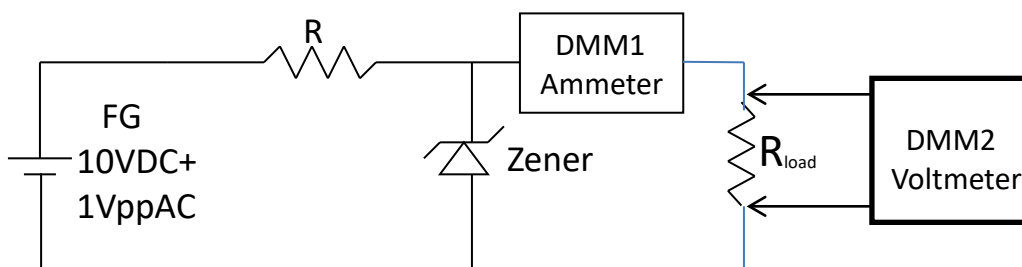

Figure 3. Voltage regulator using Zener diode
1. Construct the circuit as shown in Figure 3. Use R calculated in pre-lab. For 10V power supply use offset voltage of 10V and minimum ac signal from a function generator as was done in part II.
1. Draw circuit diagram in Figure 3 with measured value of resistor. (2 pts)